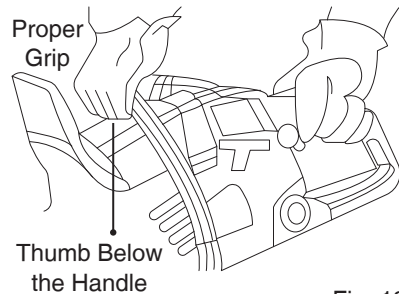
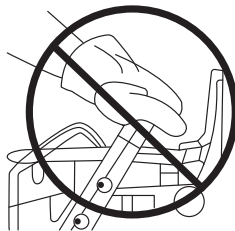

Fig. 12
Fig. 13
- maintain a proper grip on the saw whenever the motor is running. The fingers should encircle the handle and the thumb should wrap under the handle (Fig 12). This grip is least likely to be broken by a kickback or other sudden reaction of the saw. Any grip in which the thumb and fingers are on the same side of the handle is dangerous because a slight kick of the saw can cause loss of control (Fig.13)